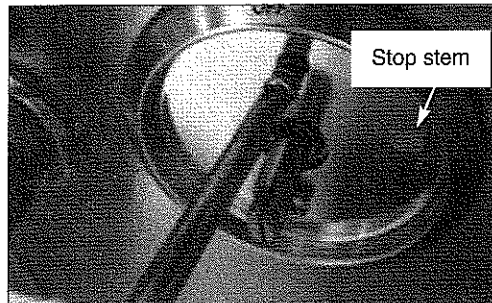

Fig 12
14. Replace the new bezels (one small bezel and four large bezels) with the stop stem provided in the NG conversion kit. Attach the two (2) philips pan head screws on the bezel (one small bezel and four large bezels). (See Fig. 12)